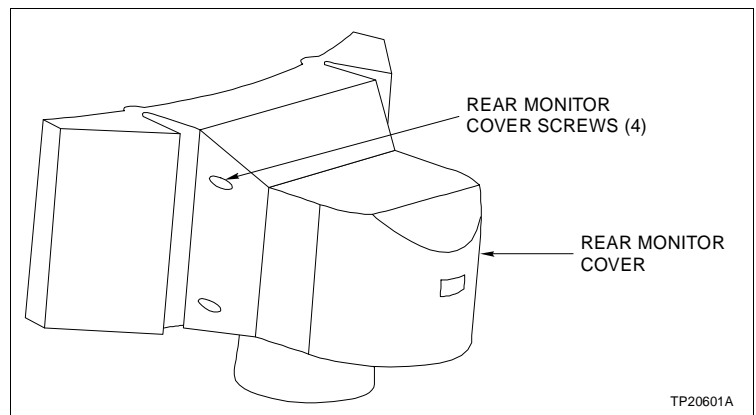

Figure PR64-1. Rear Monitor Cover
2. Use the long Phillips head screwdriver to remove the four rear monitor cover screws (Fig. PR64-1).